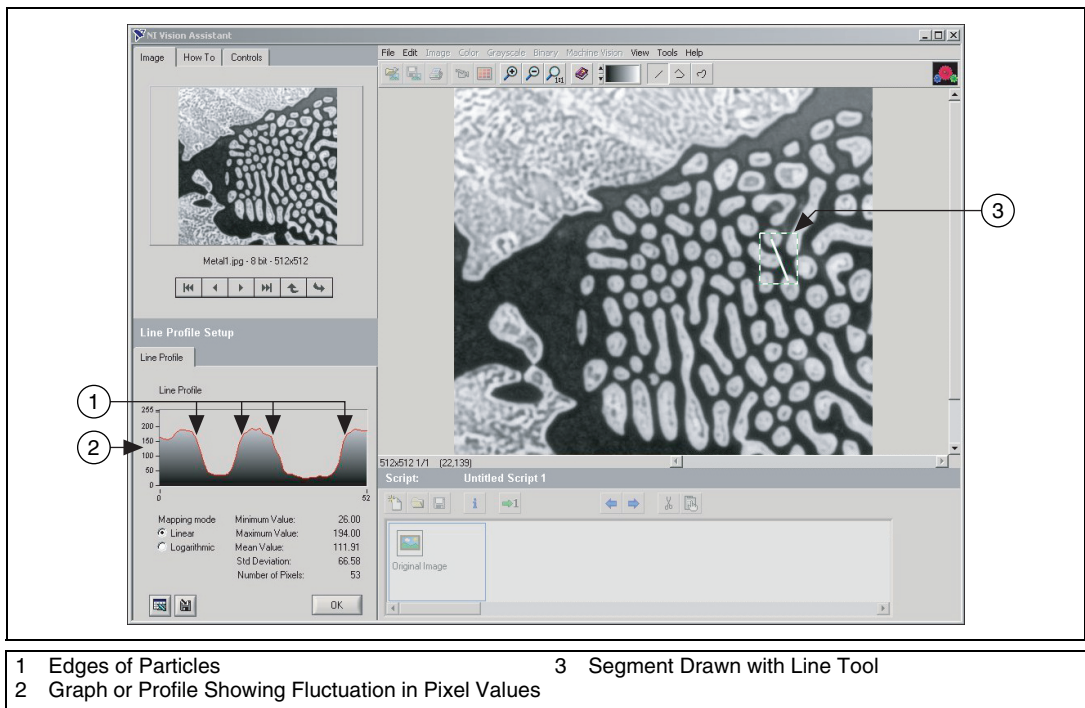

Figure 3-1. Using a Line Profile to Examine Edges
2. Draw a short segment across a particle, as shown in Figure 3-1.
In Figure 3-1, the areas labeled **1** represent the edges of the particles. Notice that the edges of both particles have a slope. The more shallow the slope, the greater variation you have in detecting the exact location of the edge. As you change the threshold level in images with shallow-sloped particle edges, you might inadvertently change the
The area labeled **2** in Figure 3-1 is a fluctuation in pixel values, which might be caused by brighter and darker pixels in the center of the particles or it might also be edges of a hole in the particle. Later, you threshold the image to make all of the pixels in the particles the same pixel value and perform a morphological operation on the image to fill any holes left in the particles.